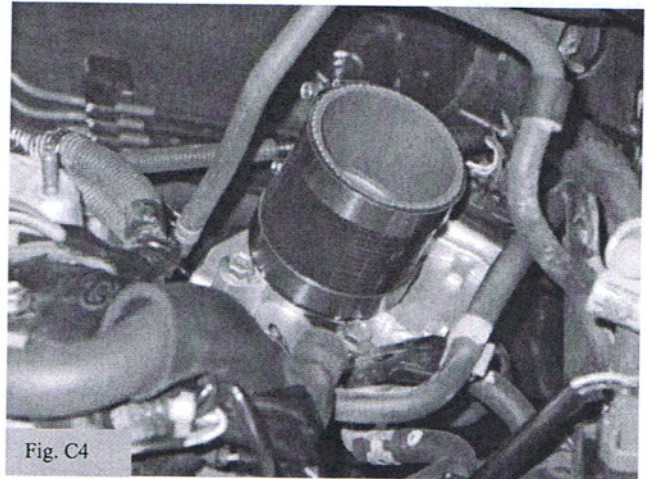

Fig. C4
4. Install the long coupler onto the throttle body. Install one clamp and tighten. Install the other clamp but do not tighten at this time. (Fig. C4)